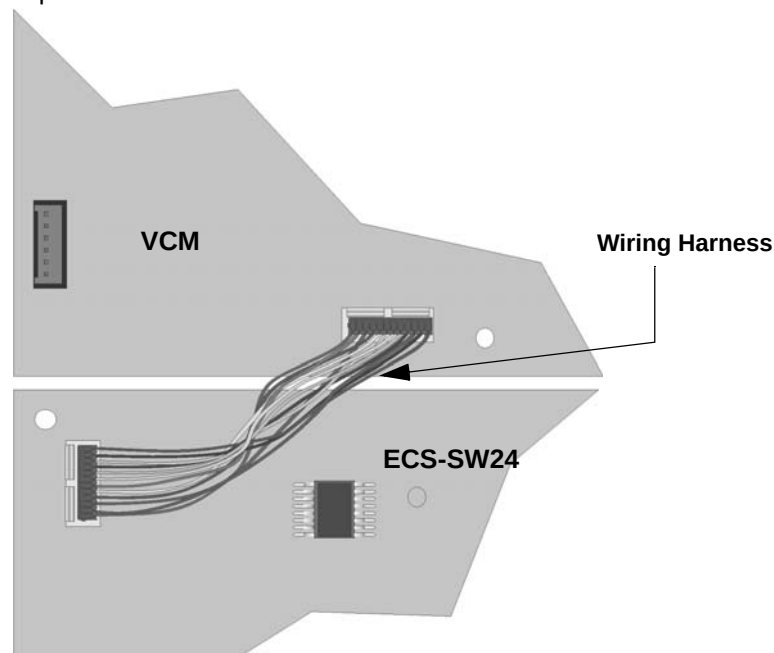

Figure 4-4 Wiring Harness Connection for VCM to One ECS-SW24
5. For the IFP-100ECS or IFP-1000ECS, Connect one end of the wiring harness (P/N 130398 supplied) to the ECS-VCM and the other end to the ECS-SW24 as shown in Figure 4-4.